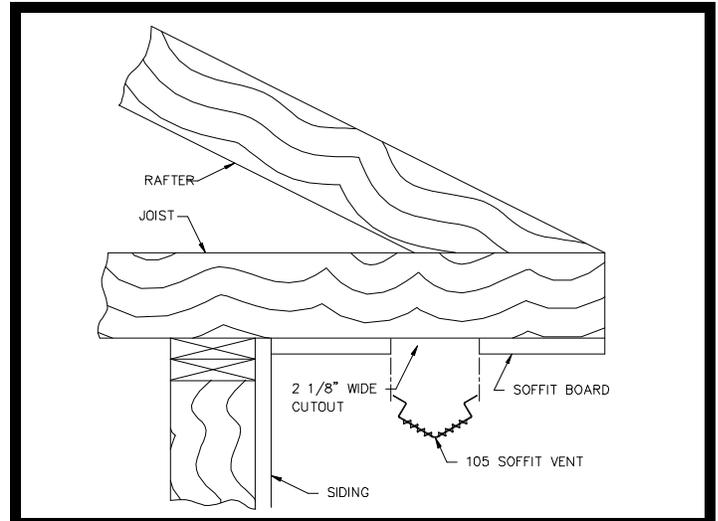

Figure 2
**STEP-3** Squeeze 105 together slightly so it will fit through the cutout slip 105 into the cutout and release, the 105 should now return to its original shape. (See Fig. 2)